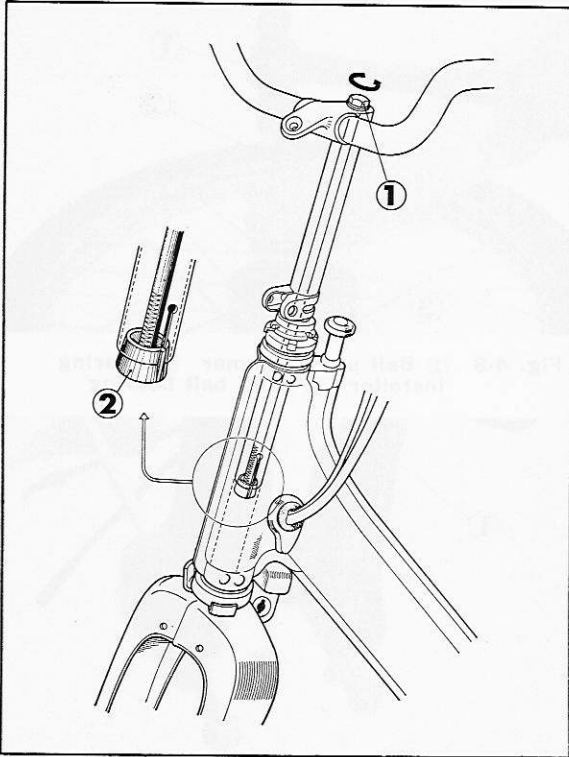

Fig. 4-12 ① Handle set bolt ② Lock nut
- Loosen handle set bolt and tap lightly to remove the handle. (Fig. 4-12)